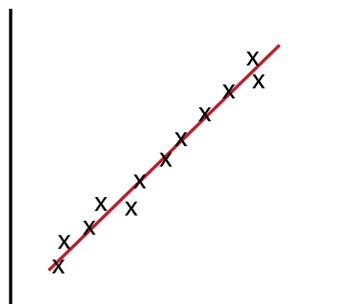

Figure 4
- Graphs will vary, but all should show a trend of the temperature increasing as the number of particles increases, such as in Figure 4.